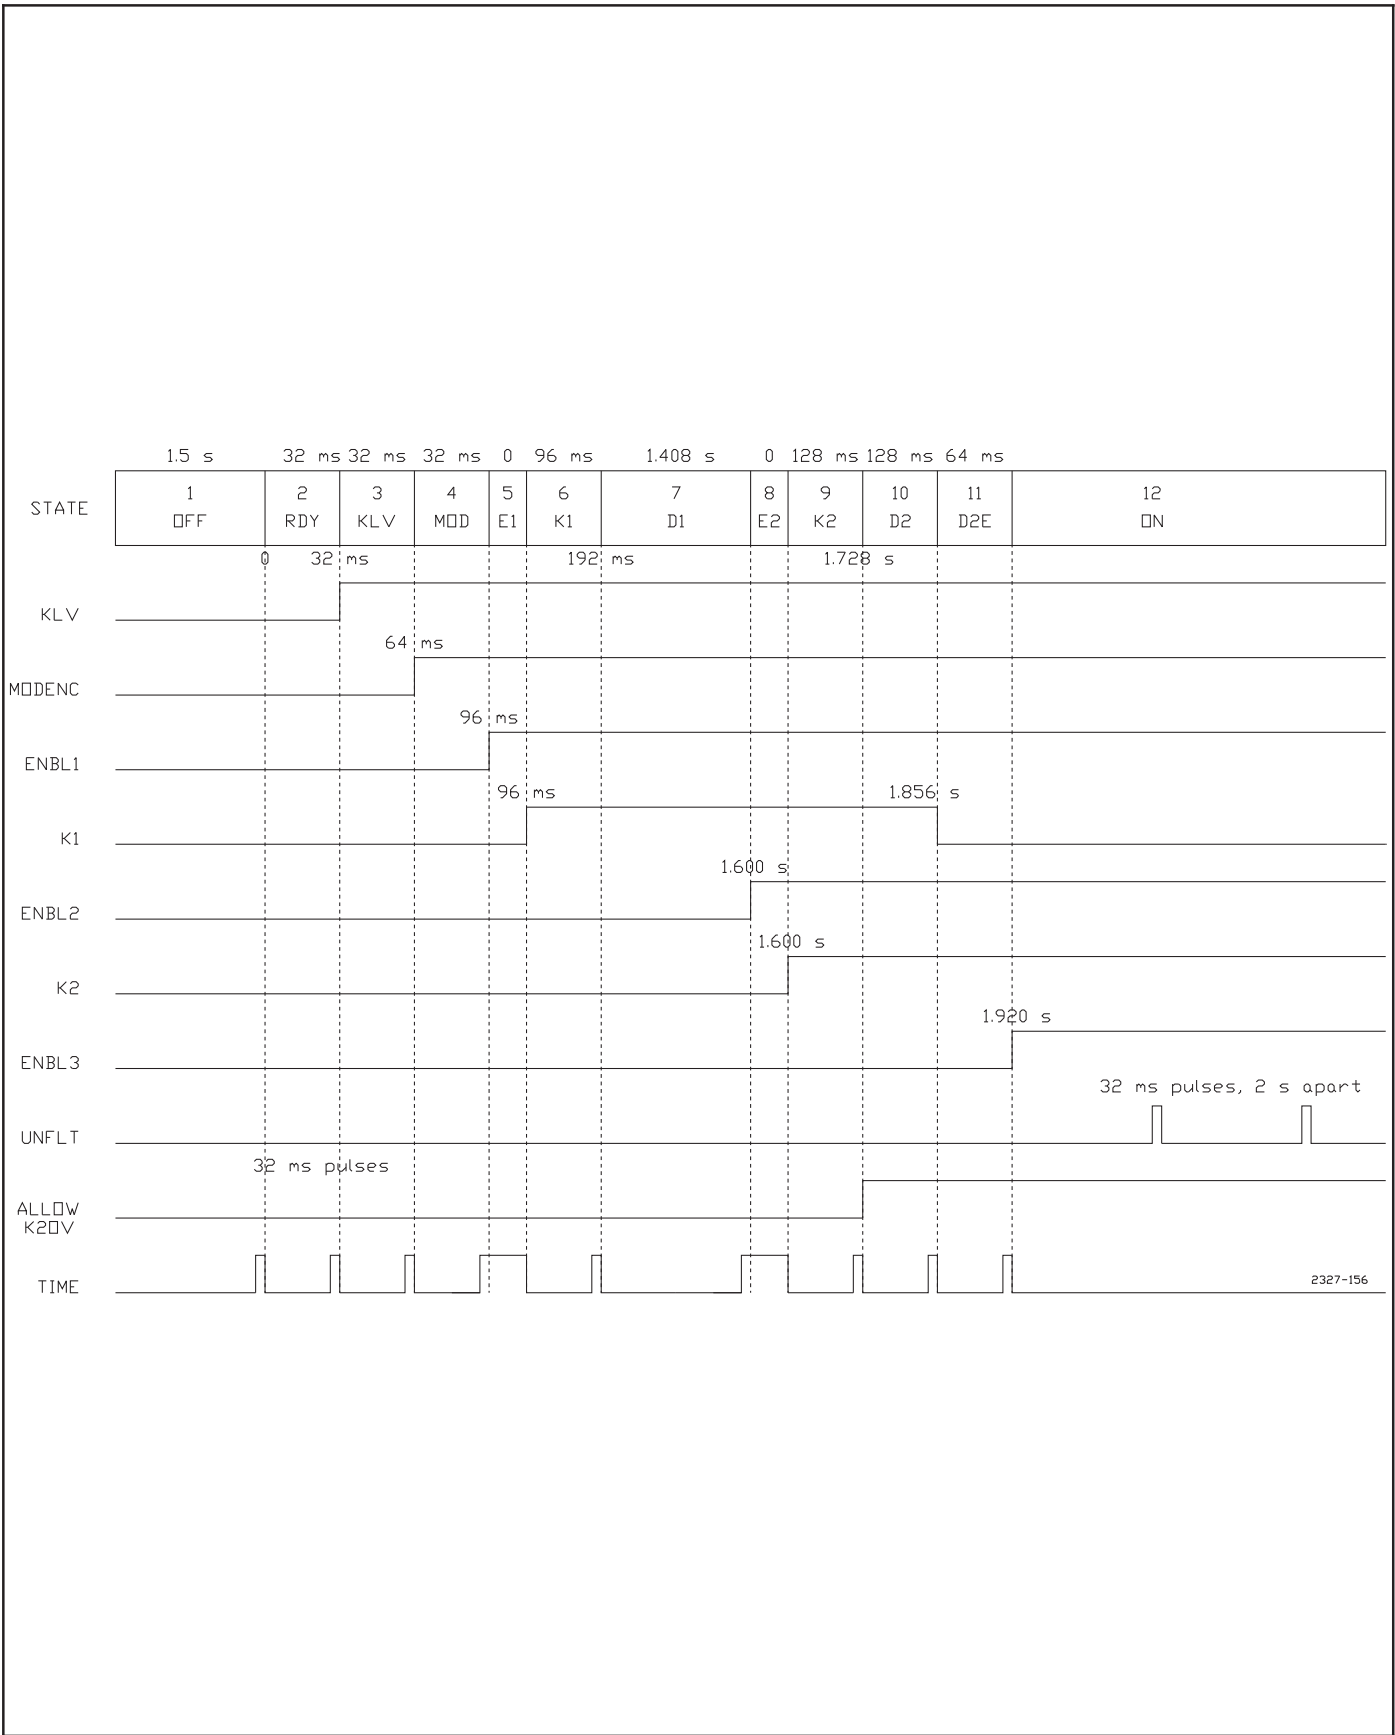

Figure M-10. Step-Start Sequence Timing Diagram
- d. Refer to Figure M-10, Step-Start Timing Diagram for the following discussion.